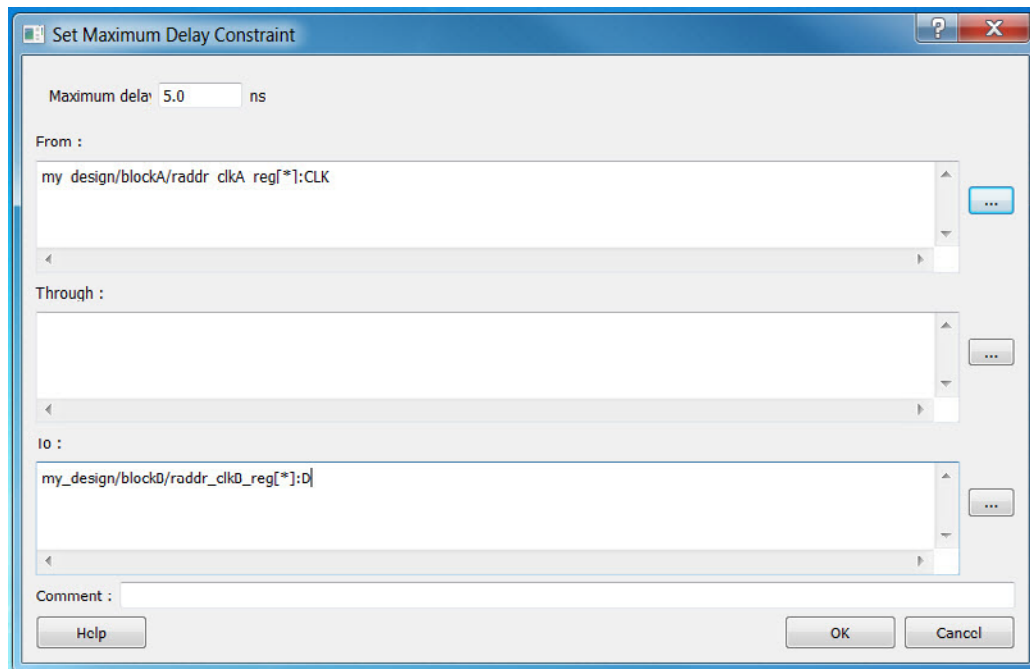

Figure 2-11 • Set_max_delay Constraints in Cloned Scenario
3. Enter set_max_delay constraints for design paths that cross clock domains (Figure 2-11).